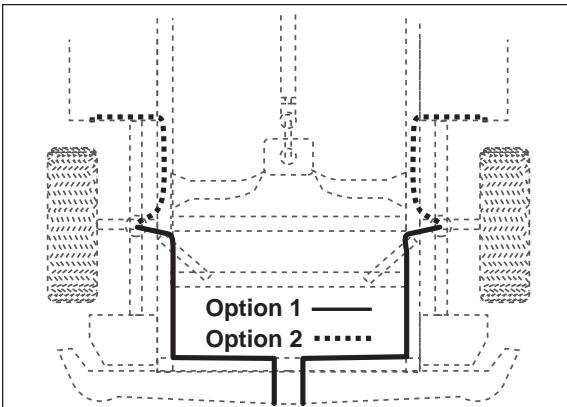

Figure 6
- A. Select a location for the inflation valves in the rocker panel flange, or rear bumper, assuring that each valve will be protected and accessible with an air hose (Figure 6).